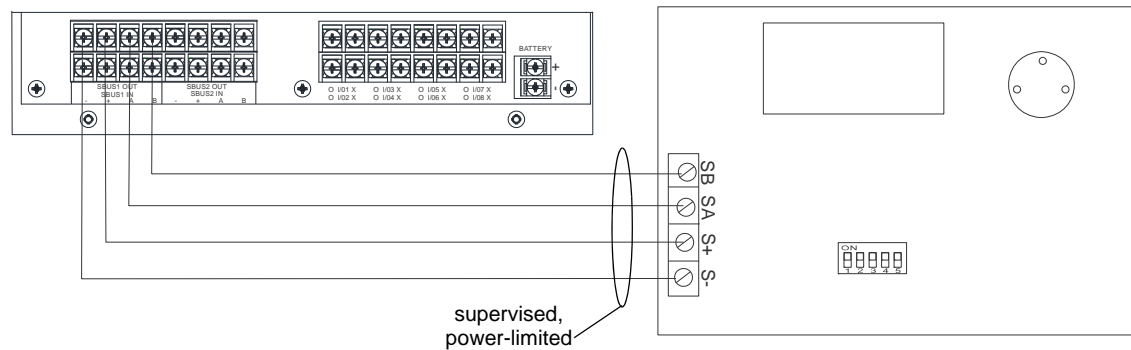

Figure 4.18 TR-RD1G/R Connection to the Panel
3. Connect the TR-RD1G/R to the panel (see Figure 4.18).
4. After the annunciator wiring to the panel has been completed (refer to Figure 4.18), replace the electronic assembly in the back box. Place the bezel over the back box and tighten the set screws on the bezel.